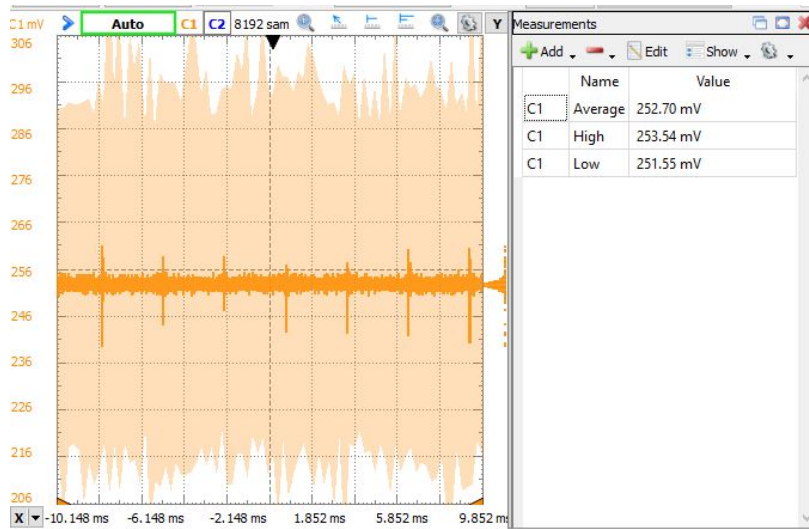

Fig. 3 Output voltage of LM35
- 16) Figure 3 shows a zoomed version of the output voltage as measured by the AD2. From this figure, there is visible noise and a high and low measurement. The range between the high and low voltage measurements comes out to be around 2 mV as shown by the high and low measurements. This corresponds to about 0.2°C which is consistent with the data sheet's typical variation at room temperature. However, there is also considerable noise from the scope beyond this range shown in the light orange in Figure 3. Using the lighter orange color for the noise range there is a range of about 80 mV which is $\pm 4^{\circ}\text{C}$ which is considerably more error. Some of this error can come from the AD2 as it is sampling the voltage. To mitigate some of the errors due to noise, we could introduce a filter before making the voltage measurements. A lot of the noise comes from high frequency signals so a low pass filter before measuring with the AD2 could reduce some of the noise in the measurement. More signal conditioning such as using active filters and amplification could further reduce the noise present. You could also use a better sensor that has less noise in its output voltage or a better oscilloscope.